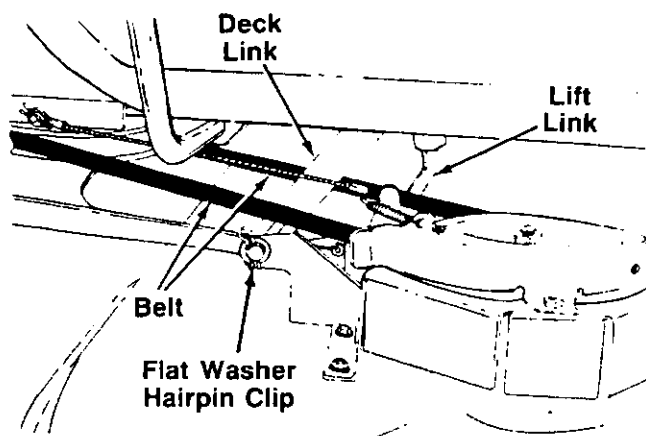

FIGURE 11.
6. Place belt above the diagonal brace. Route one side of the belt between the left hand lift link and deck link, and the other side outside of the deck link, as shown in figure 11. Roll belt onto engine pulley.
12. Lifting the deck slightly to align the holes, attach the two lift links to the deck using flat washers 1/2" I.D. and larger hairpin clips. See figure 11. Attach the front deck links, then the rear deck links, using flat washers 1/2" I.D. and hairpin clips.